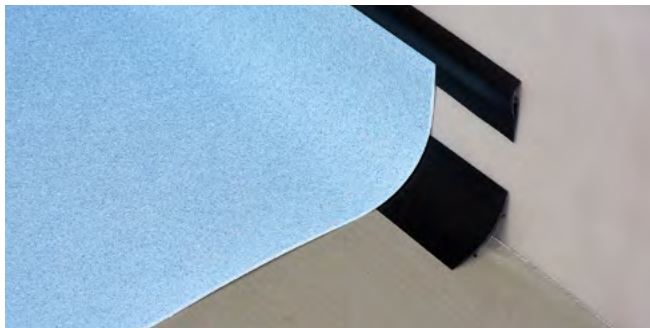

Figure 3.6 CS-N capping strips
**3.13.1 Fitting Ejecta capping strip (type CS-N) Figure 3.6**